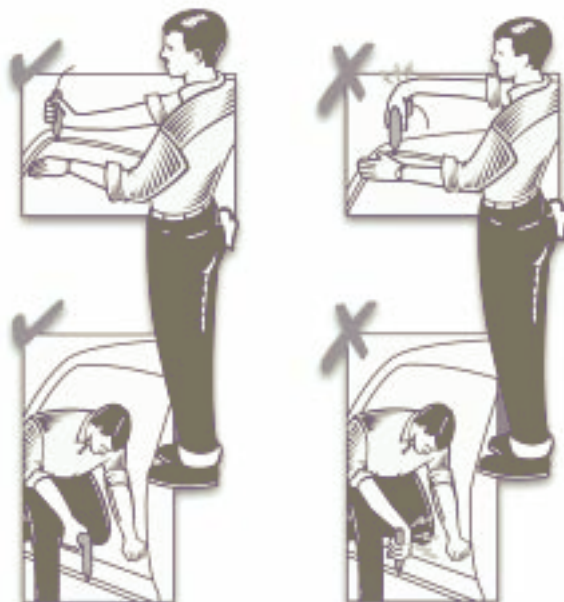

Fig 5. Correct orientation of the workpiece
- by orientation of workpiece e.g. angled towards workers. Fig 5.